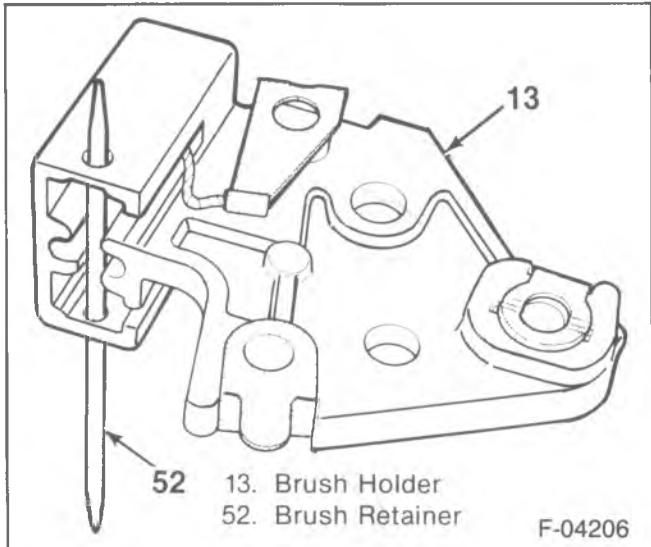

Figure 16—Brush Retainer Installed
- Retain the retracted brushes with a toothpick (figure 16).
- 11. Diode trio (15).
- 12. Resistor (14).
- 14. Stator (41) to the end frame, aligning the three stator leads to the three rectifier bridge terminals.